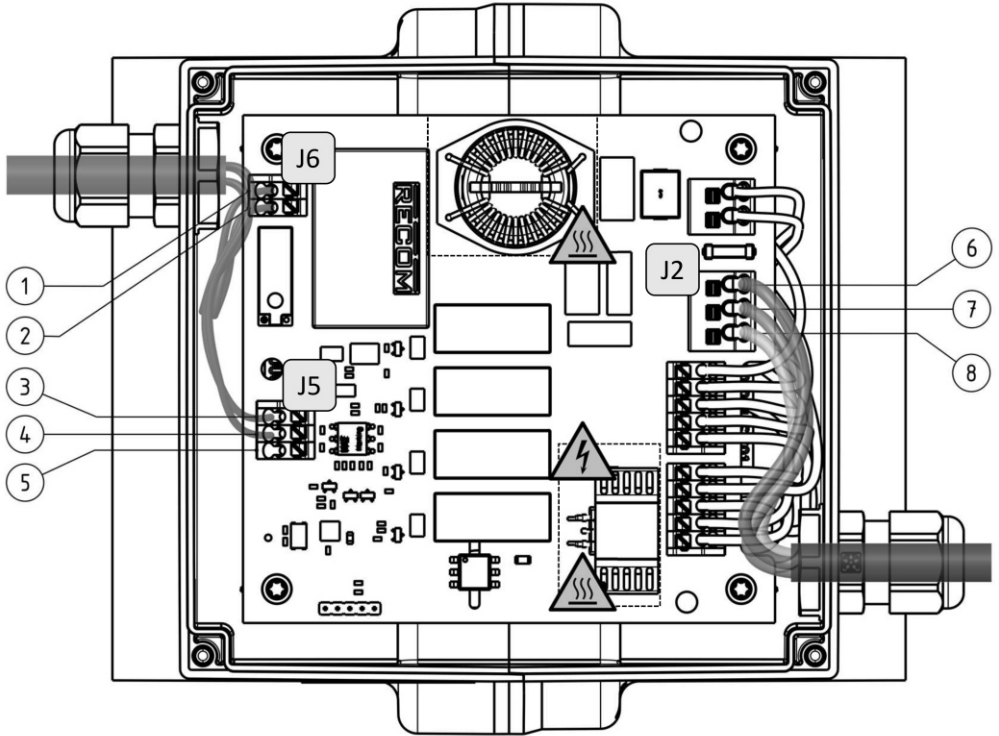

Figure 1: Board with examples of connection lines (deviations to the board equipment possible)
-  When guiding the wire in the junction box, ensure that it does not touch any electrical components. There is a risk of the wire insulation being damaged by temperature! See figure 1
-  Ensure that the cable insulation ends directly after the cable gland. See figure 1
2. Connect the cable to the voltage supply on the J2 connection terminal provided for this (L, N, PE). Observe figure 1
3. Connect the combined cable for the control signal and the error signal relay to connection terminals J5 and J6. Observe figure 1